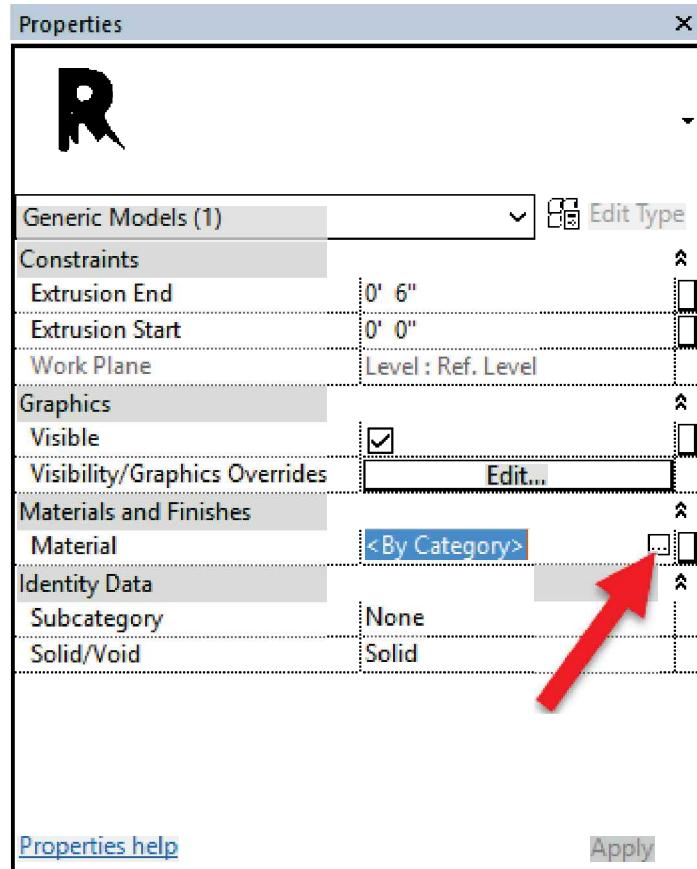

FIGURE 17-4.6 Instance Parameters for 3D geometry
Notice, in Figure 17-4.6, that the *Material* is set to *By Category*. This will be changed to something specific to this *Family*.
15. Click in the cell with *<By Category>* to reveal the small link button to the right; see Figure 17-4.6.